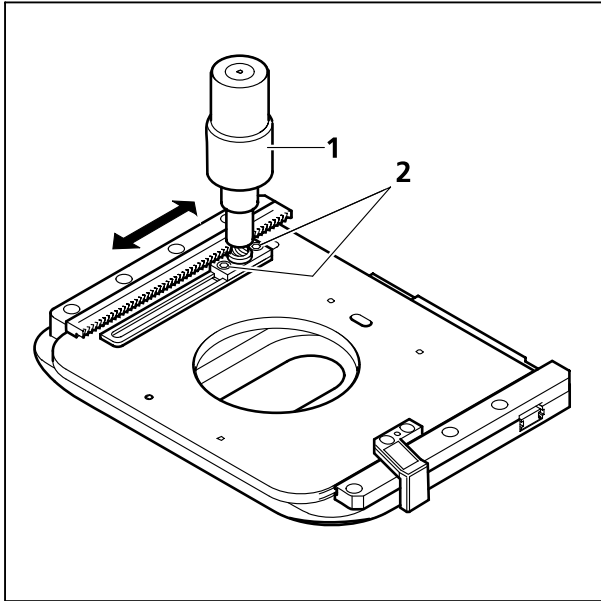

Fig. 3-15 Adjusting the connecting rod position for the ergo drive
- Loosen both clamping screws (Fig. 3-15/2) on the connecting rod (Fig. 3-15/1).
- Slide the connecting rod (Fig. 3-15/1) in the groove into the desired position.
- Tighten both clamping screws (Fig. 3-15/2).